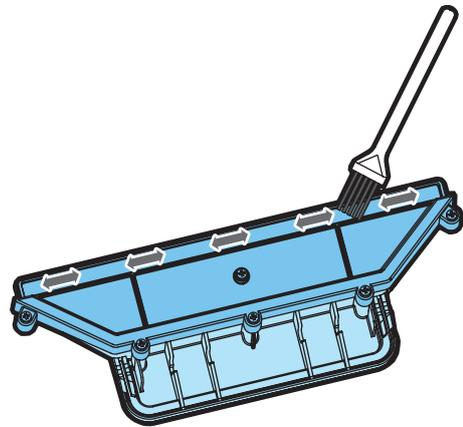

Fig.15
11. Clean the outlet surface of the sump lid with the brush and flush out thoroughly with water. (See Fig.15 & 16)